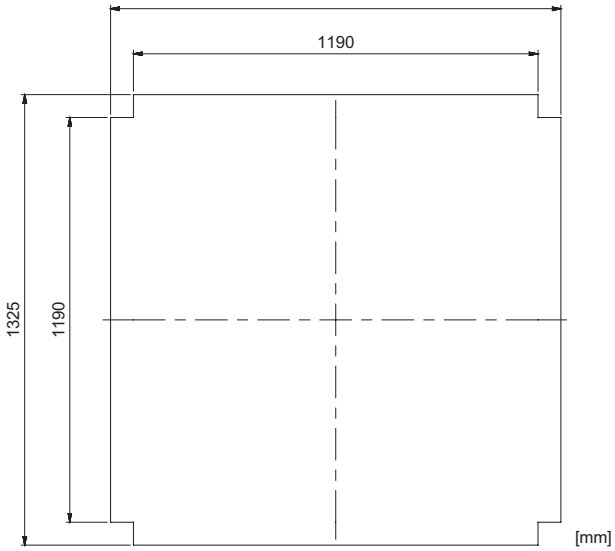
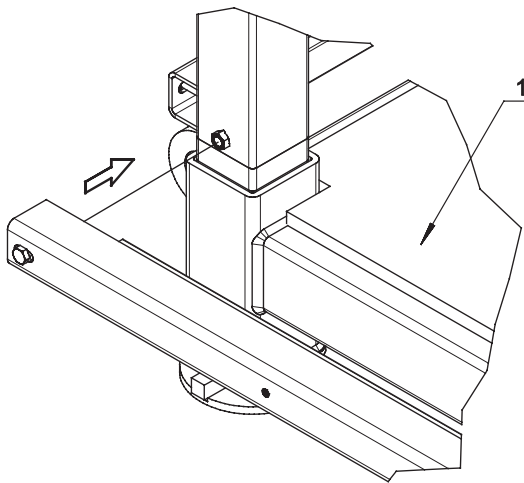

Figure 21. *Dimension of the Bottom Plywood Board.*
Figure 22. *Example of placement of Formwork Support.*
5.1. Check that all four Corner Posts are inserted correctly into the Bottom Frame. Cut a piece of 18 mm Formwork Plywood, complying with EN 636-3, to the format as shown in Figure 21 and place in the centre of the Bottom Frame. Bolt the eight Formwork Supports to the welding nuts. Use the bolts attached to the Formwork Support, see Figure 22. At this step it is not necessary to tighten the bolts.